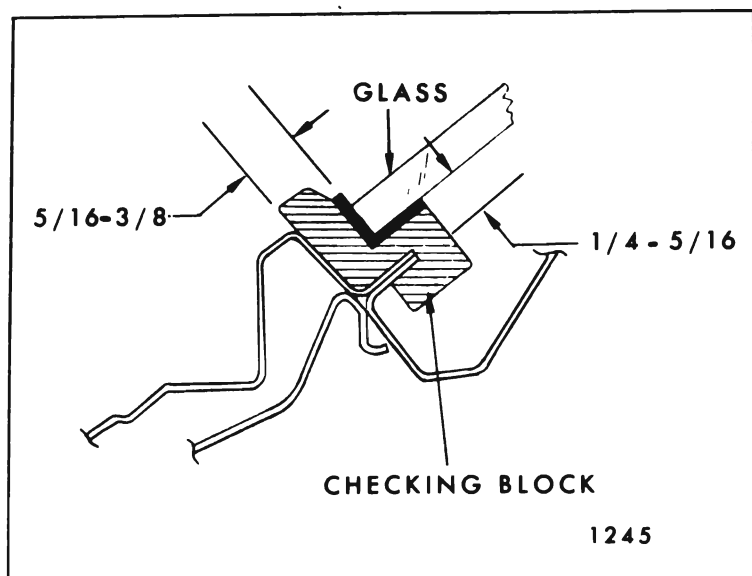

Fig. 3-15—Correct Position Of Checking Blocks
5. With windshield glass supported and centered in body opening by checking blocks, check relationship of glass to body opening around entire perimeter of glass. Figure 3-15 shows a typical section taken through the glass channel and body opening. Check glass to body relationships as follows: